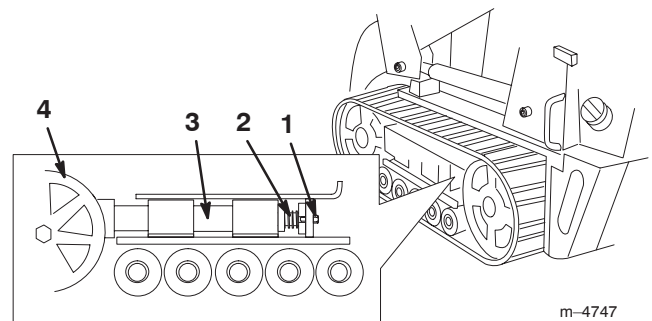

Figure 37
3. Remove the locking bolt and nut (Fig. 37).
5. Align the closest notch in the tension screw to the locking bolt hole and secure the screw with the locking bolt and nut (Fig. 37).
4. Using a 1/2 inch drive socket, release the drive tension by turning the tensioning screw clockwise (Fig. 37 and 38).
4. Using a 1/2 inch drive socket, release the drive tension by turning the tensioning screw clockwise (Fig. 37 and 39).